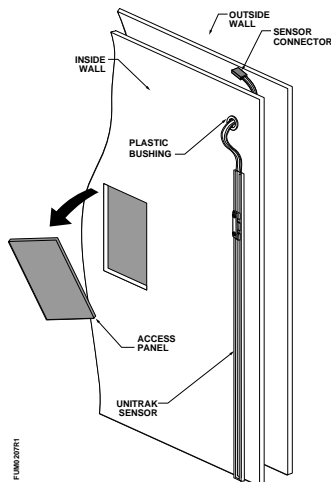

Figure 13. Routing Wires Through Fume Hood Wall.
4. Route the sensor wires through the hole, and fill the bushing with the silicon in the white tube. See Figure 13.